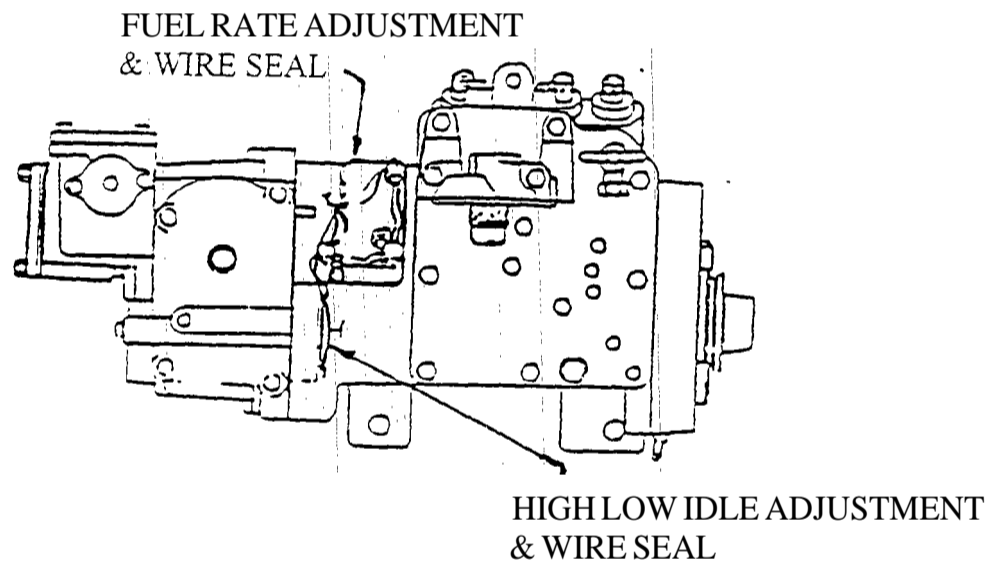

FIGURE 2 - SEALED ENGINE ADJUSTMENTS
- (WEEKLY) 7. ( ) The fuel injection rate adjustment mechanism and the engine governor setting are locked and sealed.: (Figure 2)\*